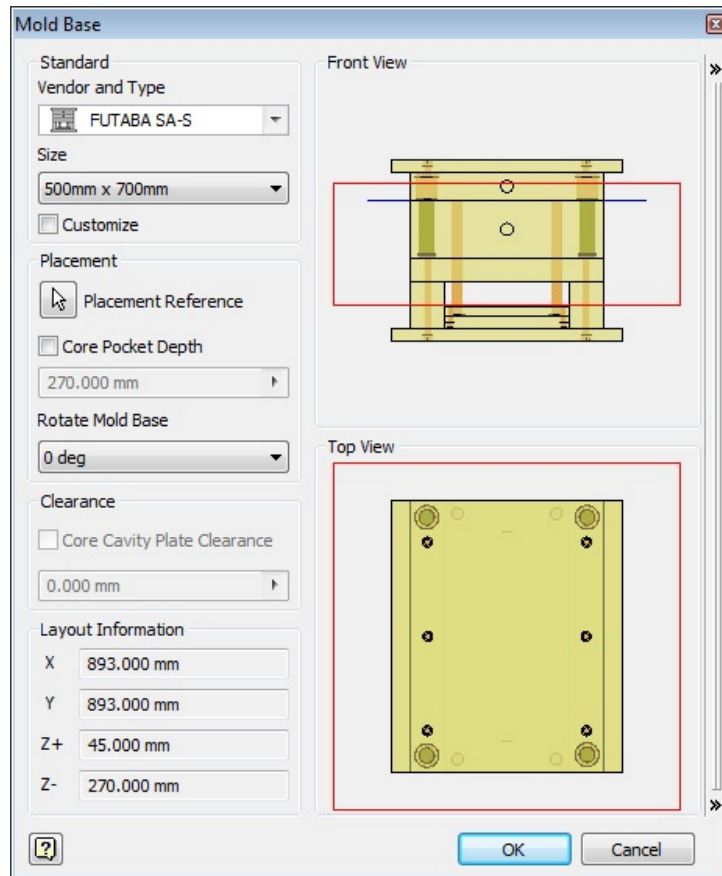

Figure 19-84 The **Mold Base** dialog box
1. Choose the **Mold Base** tool from the **Mold Assembly** panel in the **Mold Assembly** tab of the **Ribbon**; the **Mold Base** dialog box is displayed, as shown in Figure 19-84.